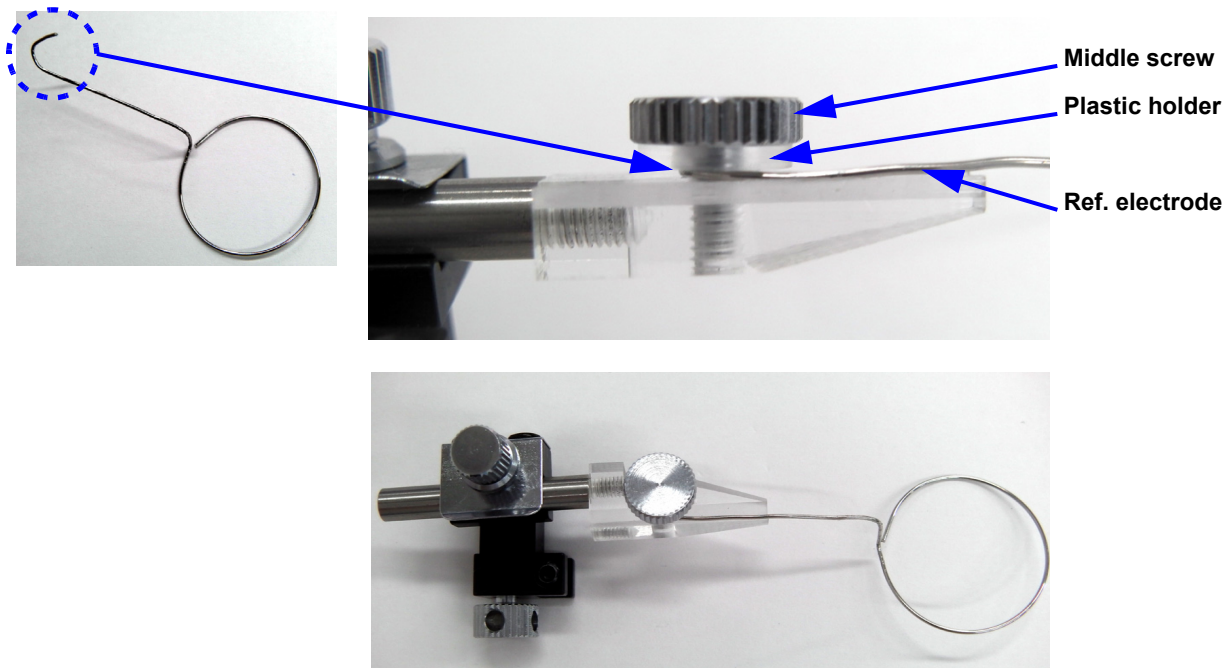

Figure 6. Installing the Ref. Electrode to the Perfusion Pipe Holder.
1. Loosen the middle screw and hook the u-shaped edge of the Ref. Electrode to the middle screw. Place the Ref Electrode under the plastic holder to achieve stability (Figure 6).